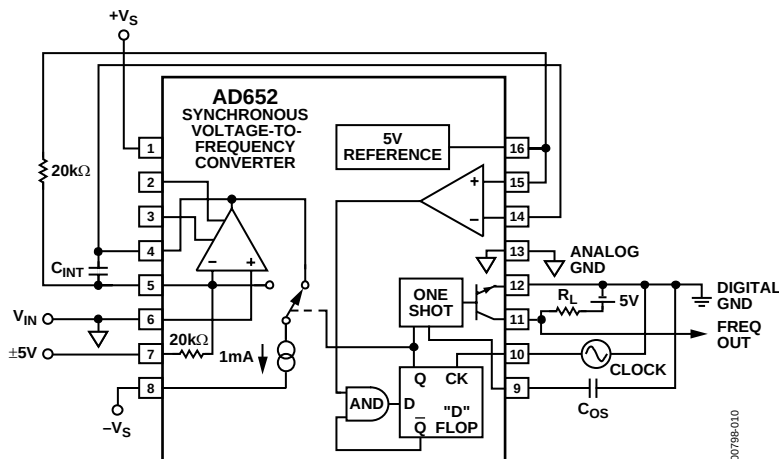

Figure 10. Bipolar Offset
A bipolar input voltage of $\pm 5\text{ V}$ can be accommodated by injecting a $250\text{ }\mu\text{A}$ current into Pin 5 (see Figure 10). A -5 V signal provides a zero sum current at the integrator summing junction, which results in a zero-output frequency; a $+5\text{ V}$ signal provides a 0.5 mA (full-scale) sum current, which results in the full-scale output frequency.
1. Use an external resistor for R_{OS} and the internal $20\text{ k}\Omega$ resistor for R_{IN} (as shown in Figure 10).